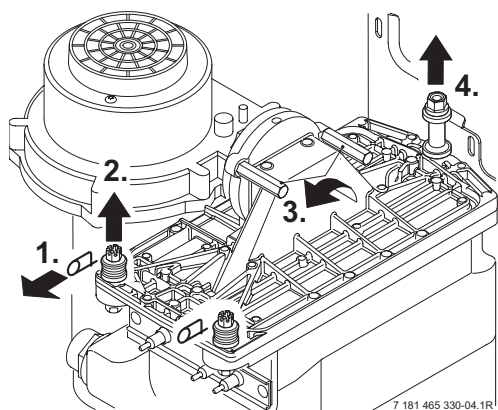

Fig. 54
- ▶ Remove the clips (1) and unscrew the two bolts (2). Refer to fig. 54.
- ▶ Unscrew and remove the two hexagon screws securing the fan (3).
- ▶ Slacken fully the rear securing bolt (4).